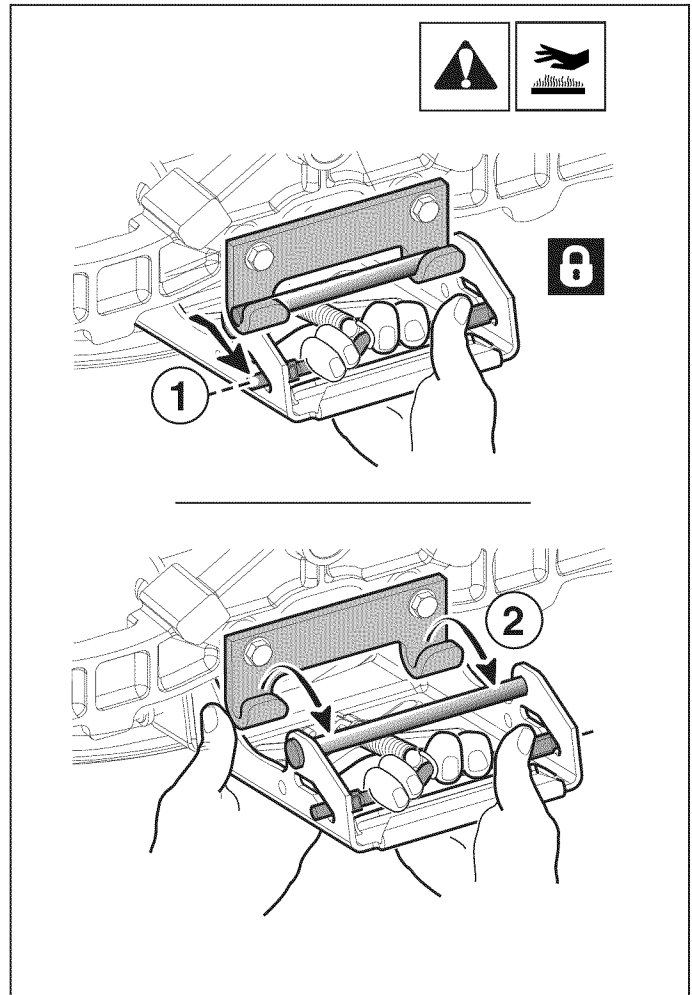

Figure 20
7. Turn the wheels straight ahead. Pull back on the spring-loaded lever and lift the mower hitch off tractor hitch bracket (see 1-2, Figure 20).